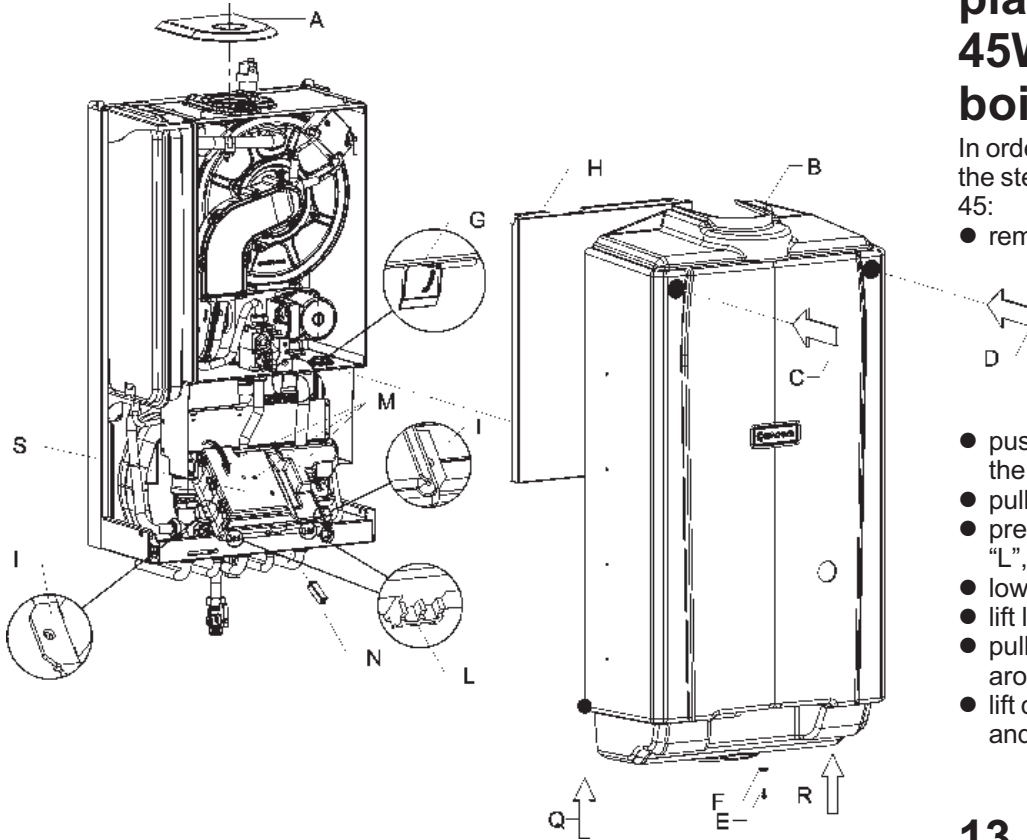

Figure 45 - Mounting and removing the casing on models 45WE and 45AE
In order to remove the casing, follow the steps below while referring to figure 45:
Boilers models 45AE and 45WE are delivered with the plastic outer jacket cover in a separate box and need to be field installed. In order to install the plastic cover, follow the steps below while referring to figure 45:
- mount the coaxial adaptor item "B" in figure 45 bis, as per section 10.1;
Figure 45 bis - Mounting the plastic cover on a 45WE or 45AE